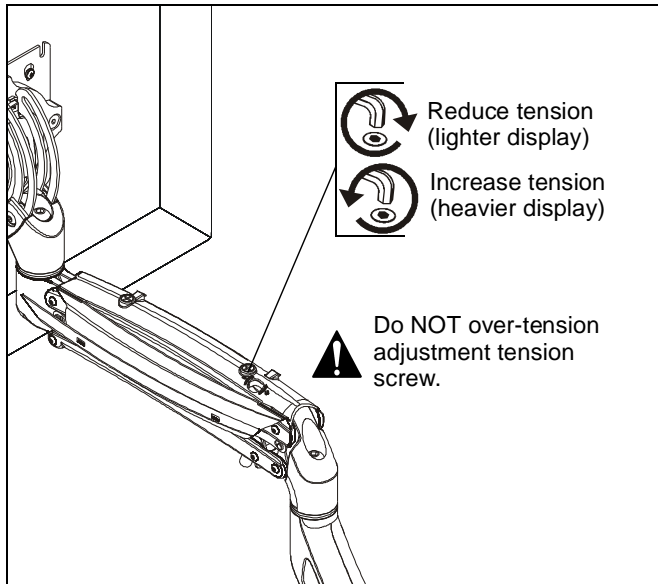

Figure 8
1. Tension may be adjusted with tension adjustment screw inside cable management cover and 1/8" hex key (H). Turn clockwise to reduce tension or counter-clockwise to increase tension. (See Figure 8)